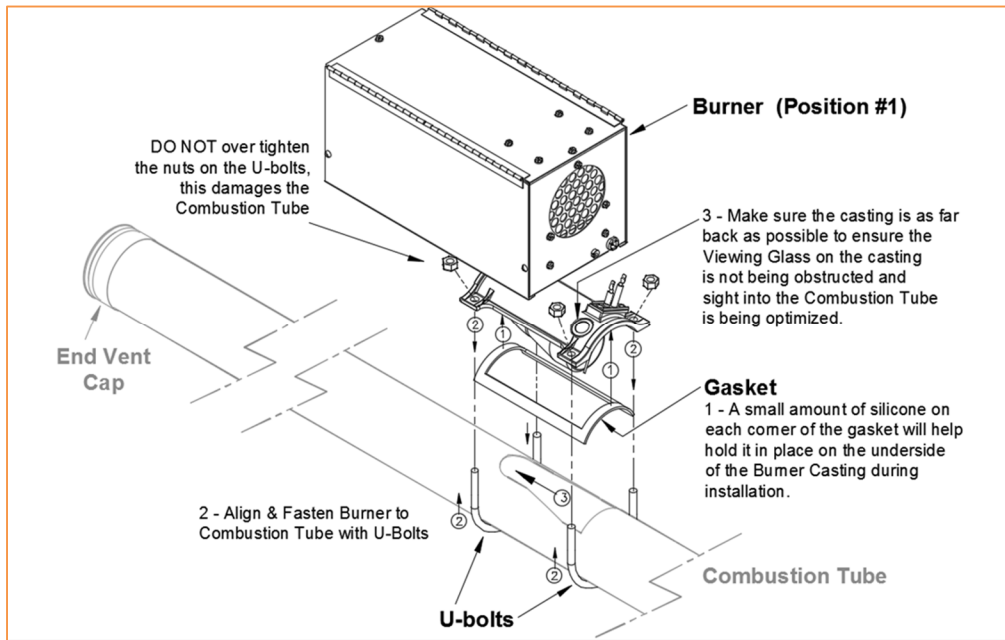

Figure 18: Burner Installation
3. Install each Burner. Ensure the gasket is properly in place, a small amount of silicon will hold the gasket. **Position the Burner completely to the back of the installation slot** as shown in Figure 18. Ensure that little or no Tube is in view through the Viewing Glass/Window.